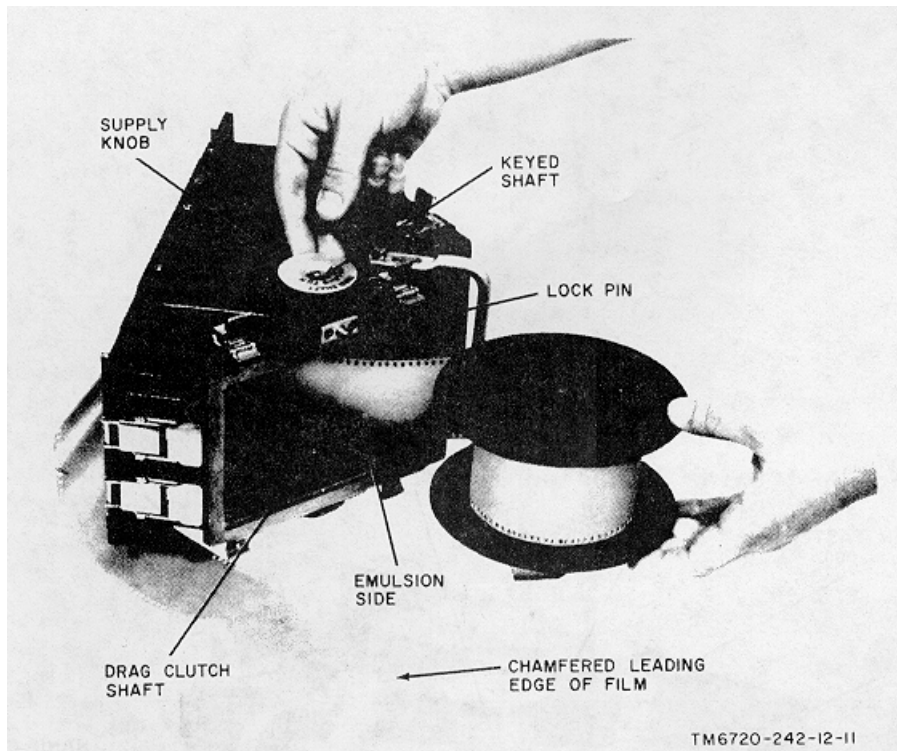

Figure 3-4. Installing supply knob.
- d. To facilitate threading, chamfer the leading end of the film as shown in figure 3-4.
- f. With the one hand, lift up and hold the supply knob (fig. 3-4).